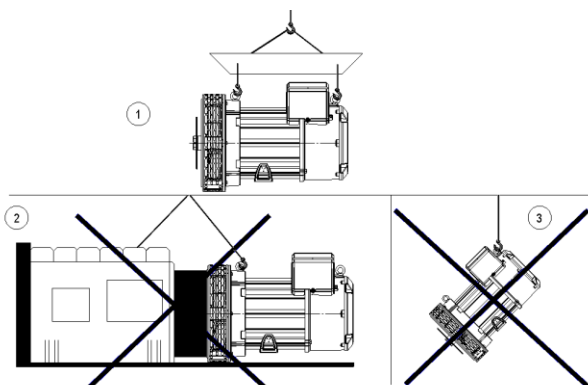

Figure 3.1: Alternator handling
- The position 1 of Figure 3.1, represents the correct way to handle the alternators and positions 2 and 3 represent the wrong ways.